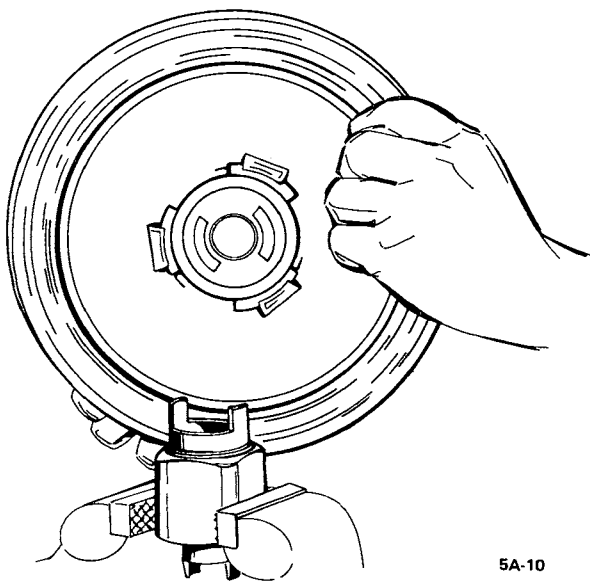

Figure 5A-11 Positioning Primary Power Piston In Tool J-23101 (Small Dia. End Up) Mounted In Vise
11. Fold back primary diaphragm from the support plate. Grip the edge of the support plate and rotate in a counter-clockwise direction to unlock the primary support plate from the primary power piston. See Figure 5A-12.